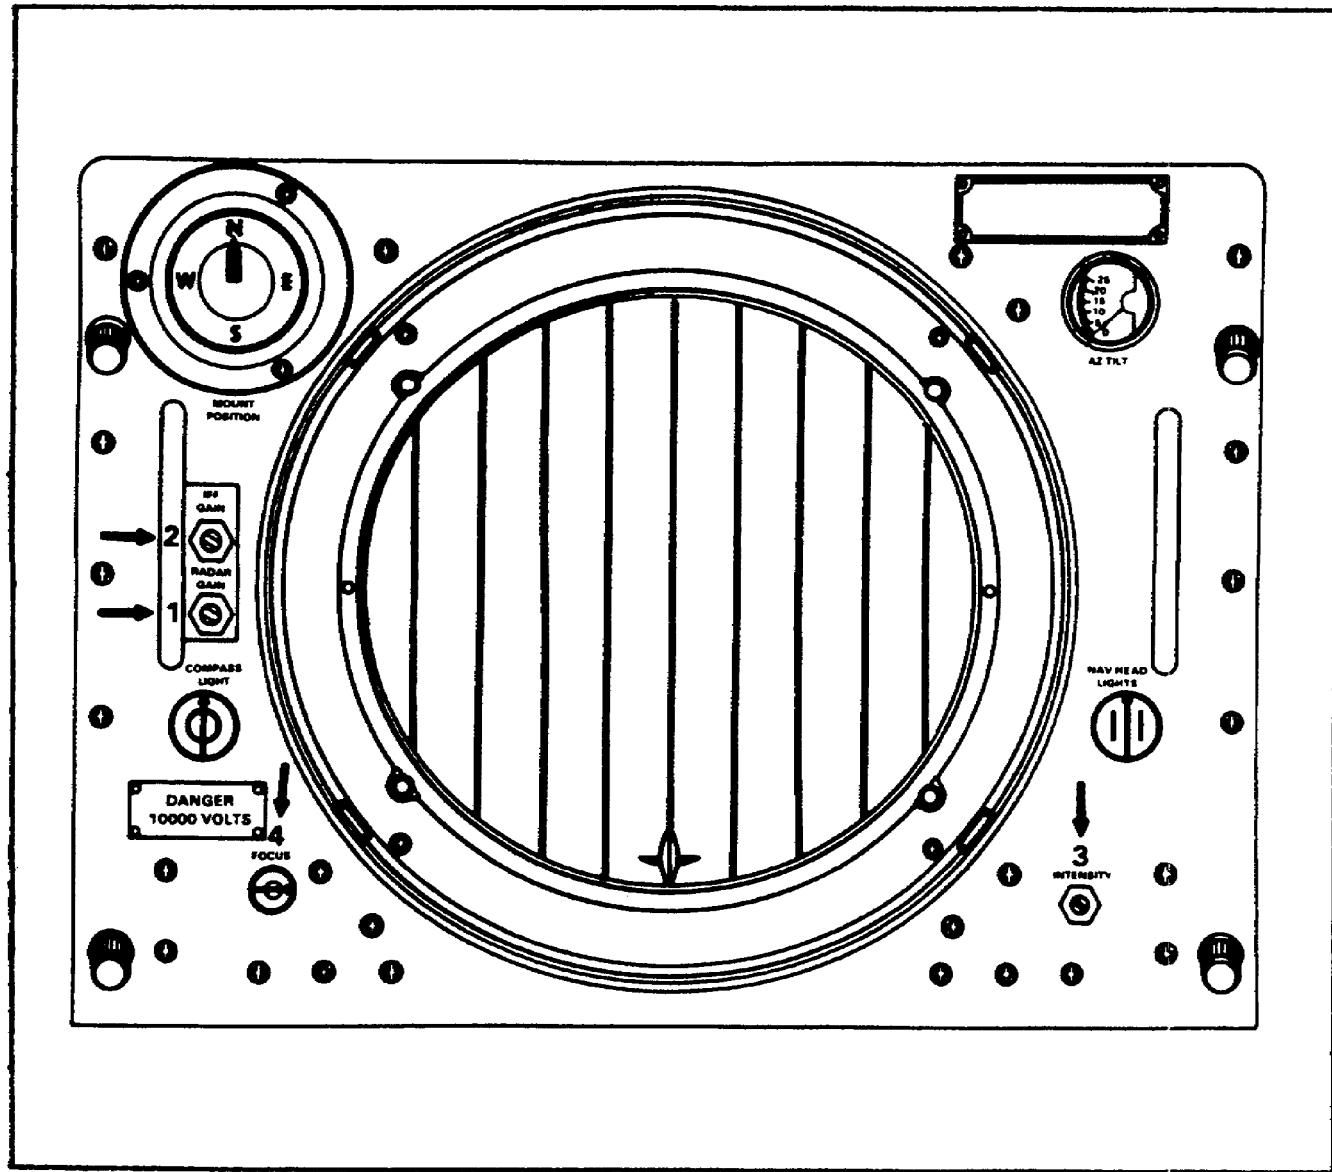

Figure 5. Indicator azimuth-elevation range IP-800/FPN-40.
d. Locate the following controls on indicator azimuth-elevation range IP-800/FPN-40. (See Figure 5.)
- (1) Radar gain control R-1405.
- (2) IFF gain control R-1406.
- (3) Intensity control R-2404.
- (4) Focus control R-2401.
- FOCUS control (Figure 5)